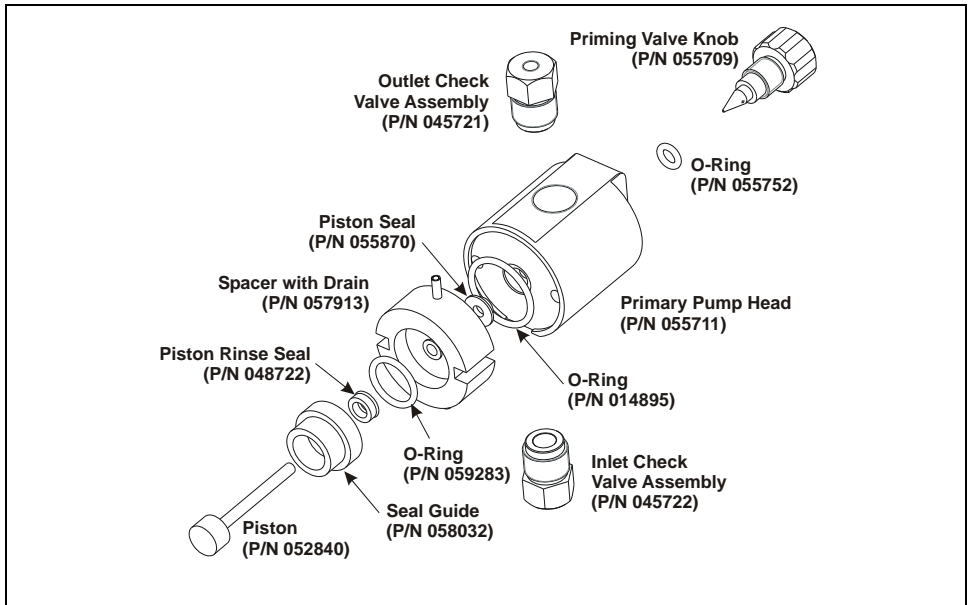
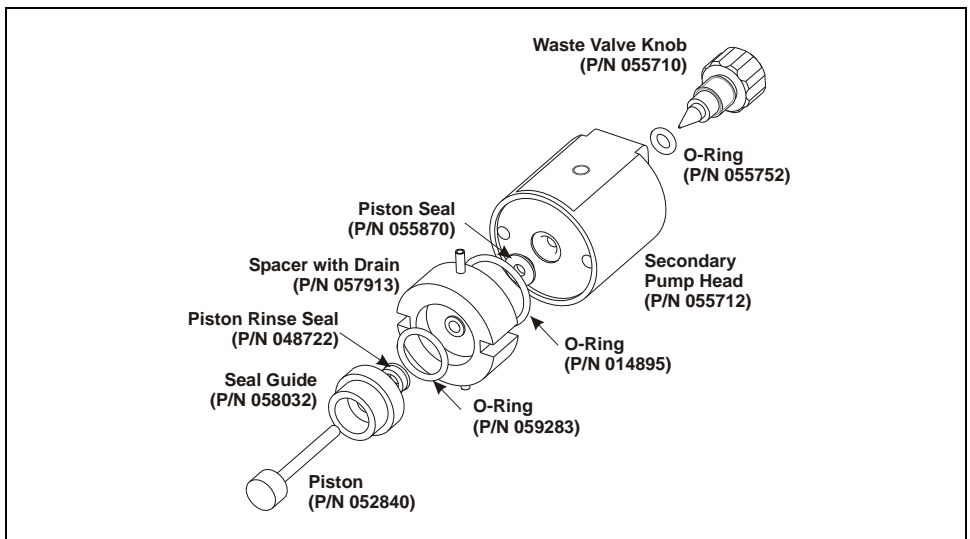

Figure 5-14. Primary Pump Head
Figure 5-15. Secondary Pump Head
5. Place the head (front end down) on a clean work surface and lift off the spacer to expose the piston seal (see Figure 5-14 or Figure 5-15).